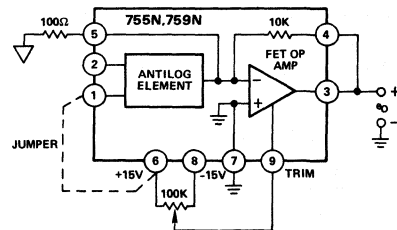

Figure 5. Trimming  $E_{OS}$  in Antilog Mode
**Offset Voltage ( $E_{OS}$ ) Adjustment** – Although offset voltage of the antilog circuit may be balanced by connecting it in the log mode, and using the technique described previously, it may be more advantageous to use the circuit of Figure 5. In this configuration, offset voltage is equal to  $e_{OUT}/100$ . Adjust for the desired null, using the 100k trim pot. After adjusting, turn power off, remove the external 100 $\Omega$  resistor, and the jumper from Pin 1 to +15V. For 755P, 759P FET use the same procedure but connect Pin 1 to -15V.